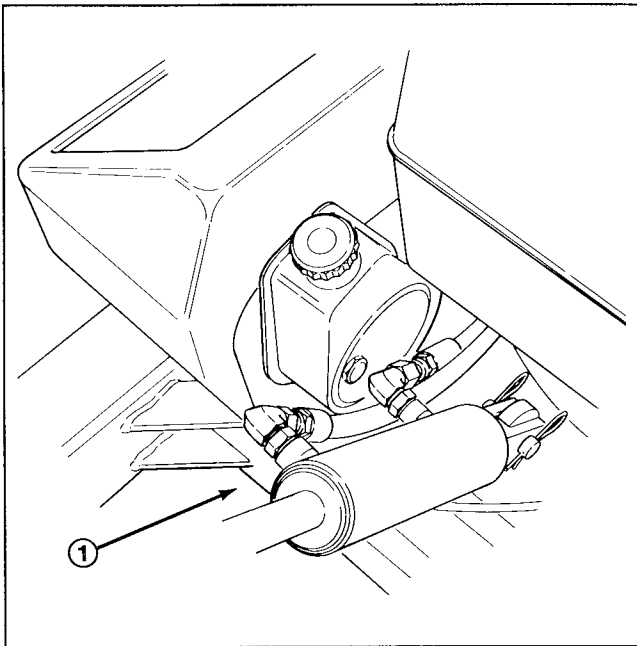

Figure 49
10. Remove (2) locknuts securing coring head to chassis (Fig. 49).